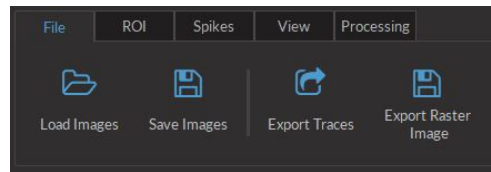

Figure 5.2: File Tab
1. The **File tab** (Fig. 5.2) is used to save/load data.